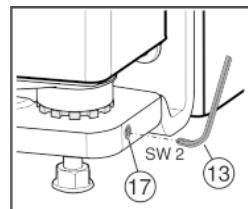

Fig. 17
- ▶ Extend the threaded pin *Fig. 17* (17) a little (by one turn at most!).
- ▶ Tighten the threaded pin *Fig. 17* (17) again to secure the bearing pin.